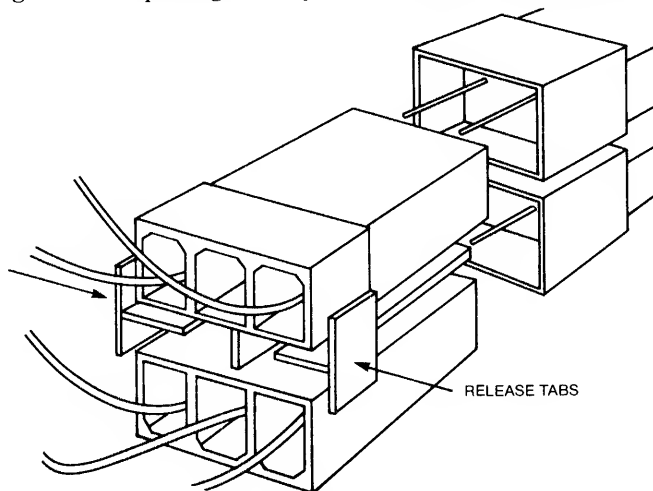

Figure 3-2. Drive Power Connector
1. Disconnect the power connector leading from the power supplies to the rear of the drive unit by squeezing the connector release tabs together and pulling it away from the rear of the drive assembly (see figure 3-2).
2. The other harness supplies DC power to the circuit board on the drive unit. It is removed by disconnecting the connector at the rear of the drive (see figure 3-2). The other end can be disconnected by removing the phillip screws holding it to the power supply.